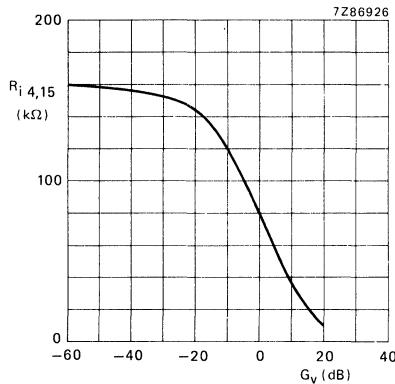

Fig. 4 Input resistance ( $R_i$ ) as a function of gain of volume control ( $G_v$ ). Measured in Fig. 1.
1. Equation for input resistance (see also Fig. 4)